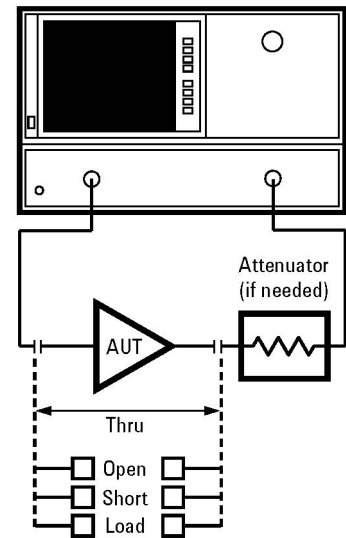

Figure 2. Basic setup for amplifier measurement using the 8510C network analyzer
Measurements in the linear operating region of the amplifier can be made with the 8510C by using the basic setup shown in Figure 2. Care must be taken when setting the input power to the AUT so that it is operating within its linear region.
1. Configure the system as shown in Figure 2. Return the 8510C to a known state of operation.